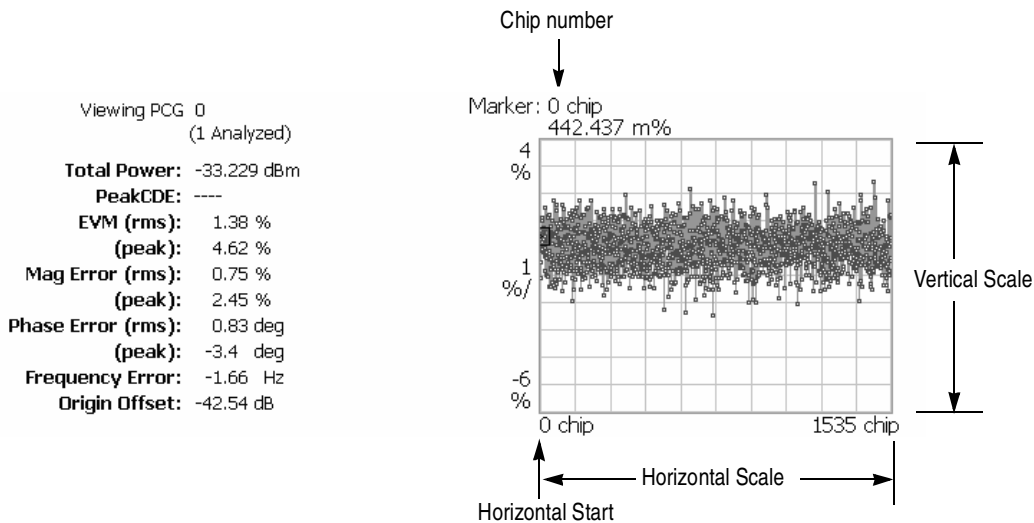

**Figure 2-22: EVM display-reverse link**
**EVM Display.** When you select Mainview Content from the VIEW DEFINE menu and then select EVM from the Mainview Content submenu, changes of EVM (Error Vector Magnitude) over time are displayed for each chip or symbol (see Figure 2-22).